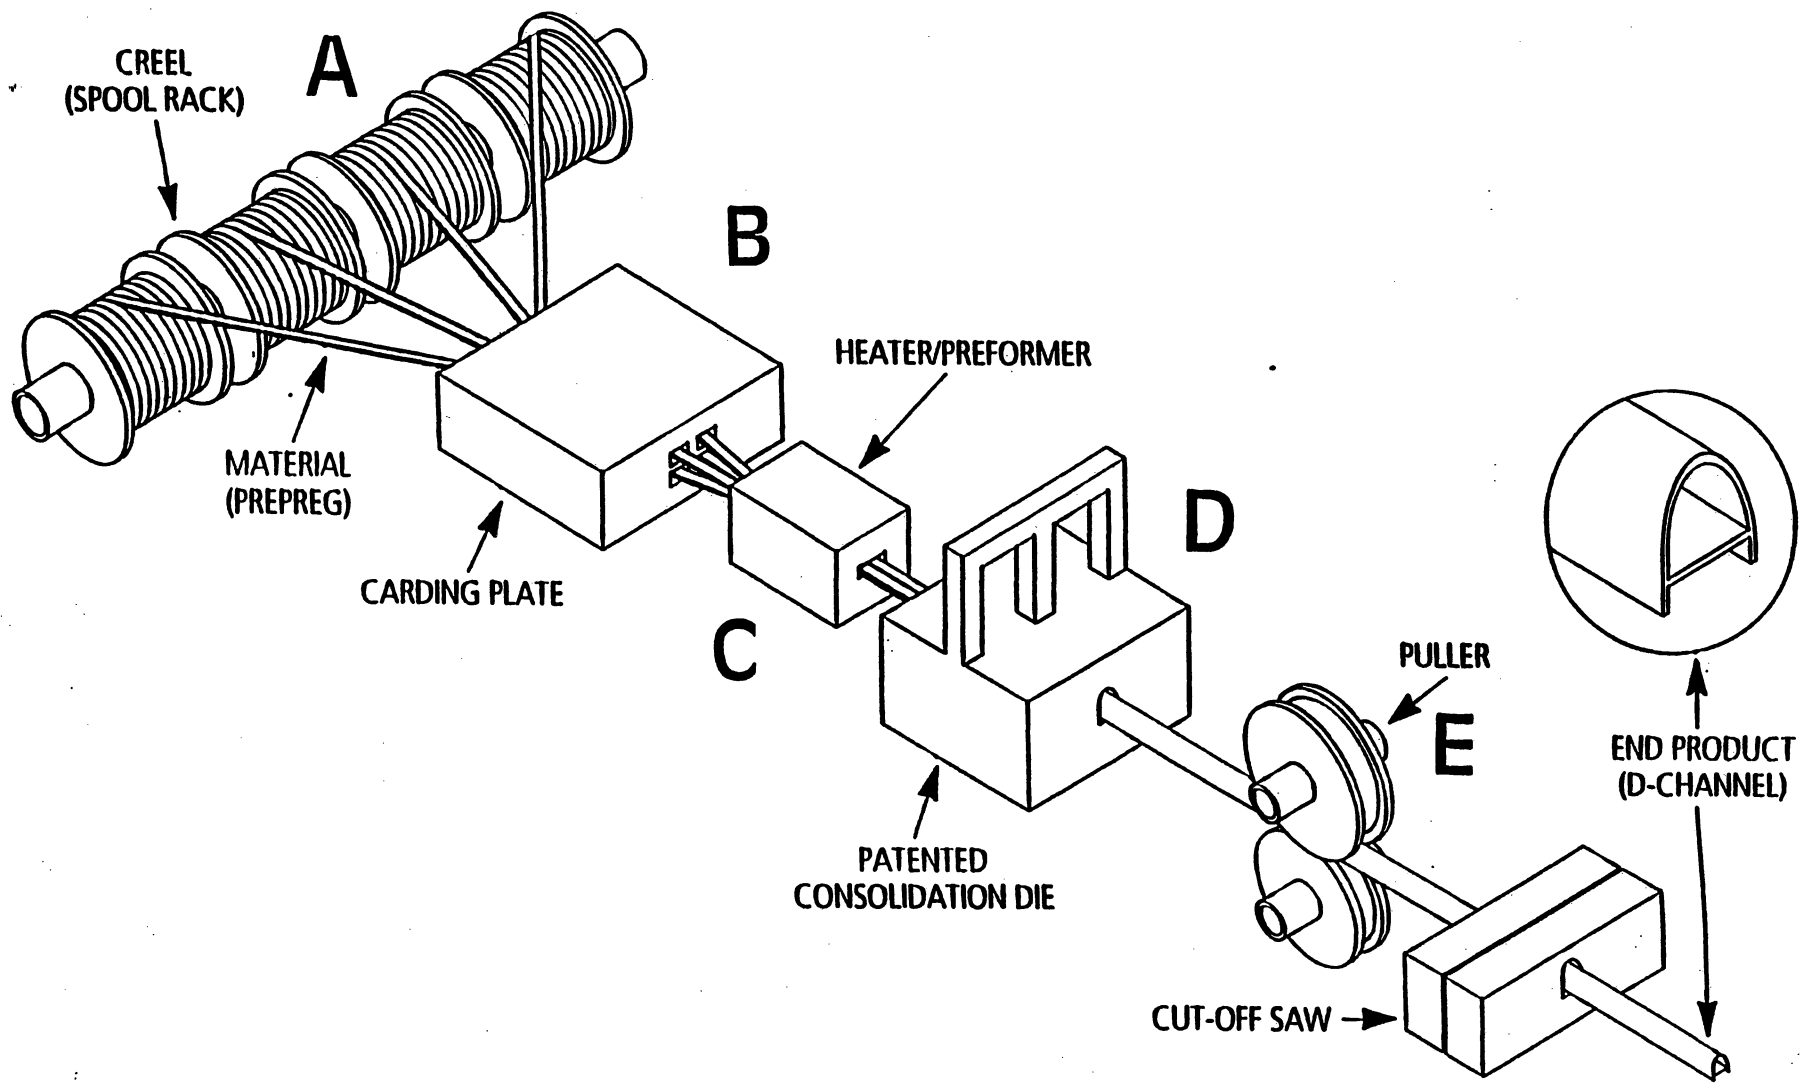

Figure 1 The thermoplastic pultrusion process used by TPI.
The firm possesses two pultrusion production lines. Fig. 1 is a diagram of the CFRP tube production process. There are, essentially, six steps in the TPI pultrusion process:
2. The "carding plate" (see item *B* in Fig. 1) has a number of openings which are specially arranged according to product shape. For example, to produce a hollow section tube, a cantilever inserter is held and supported before the carding plate. The inserter is extended to the preformer (heater) and the consolidation die.
3. The preformer (see item *C* in Fig. 1) has a three-stage heating element. The temperature of each stage is controlled by a proportional controller. For a typical resin, such as polyphenylene sulfide (PPS), the temperature of the first stage is 675°F and that of the third stage is 625°F. The prepreg passes through the heater where the layer of fibers are wet by the melting resin. After leaving the heater, the prepreg is air-cooled.
4. By the time the material reaches the consolidation die (see item *D* in Fig. 1), its temperature will be just below the melting point (~ 450°F for PPS). The components of the consolidation die include an ultrasonic generator, an ultrasonic wave guider, a pressure generator and a shaping die. The ultrasonic generator used for pultrusion is actually a modified ultrasonic welding generator. The only differences are that the generator has a wider tuning range and utilizes a smaller output power. The wave guider is a piece of metal which is equivalent to half a wavelength; it is used to transfer the power to the die area. The ultrasonic power increases the resin's flow rate, even if its temperature is below the melting point. So, the material can be pulled through the die to form the required shape. The die is formed of a top part and a bottom part. The top part, which is connected to a pressure generator, provides additional pressure during the tube-forming process.
5. The fifth stage(see item *E* in Fig. 1) is the pulling device composed of two linear motion mechanisms -- one produces a forward pulling motion, the other a backward release motion.